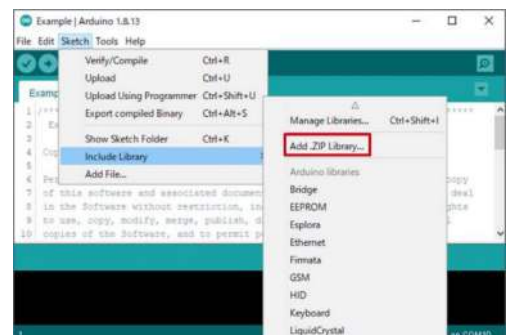

Figure 3. Software Installation
7. Select [Sketch] -> [Include Library] -> [Add.ZIP library...], then KXTJ3-1057 Software. (Figure 3)